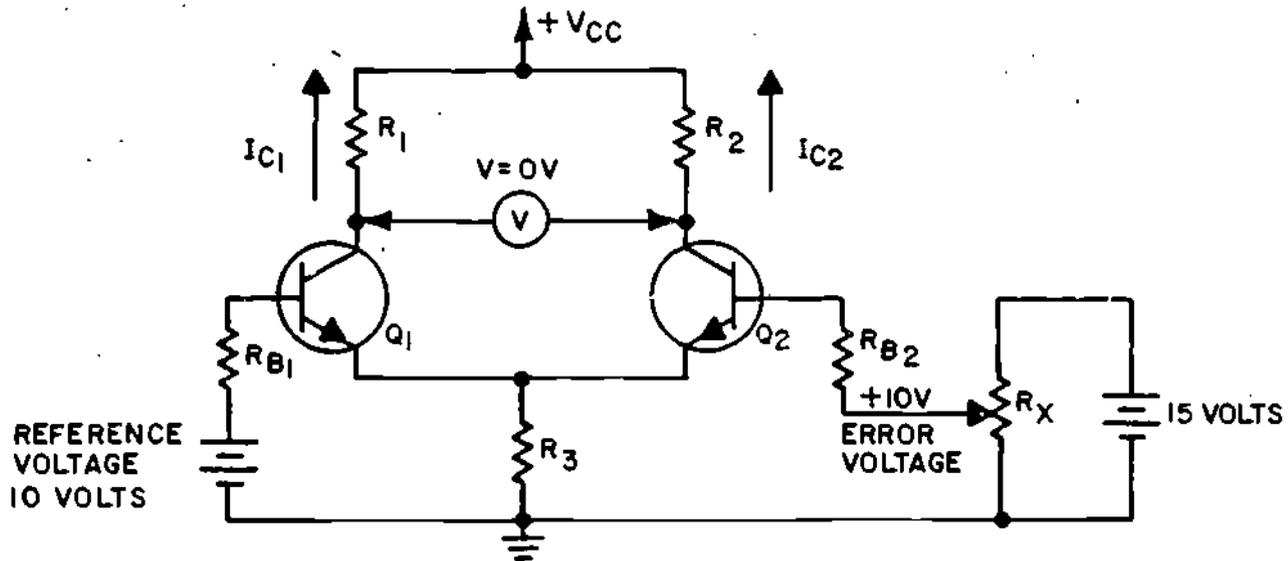

FIGURE 18
- (26.) The schematic shown in Figure 18 is a voltage comparator circuit that is part of a shunt detected series voltage regulator.
Notice that identical transistors and collector load resistors are used with a common emitter resistor in order to form the balanced circuit. The circuit shown is often called a differential amplifier, since it amplifies the difference between the input signals. Look at Q1 and note that a reference voltage of 10 volts is applied to the base of the transistor. An identical potential is applied to the base of Q2. This voltage is the result of using the potentiometer Rx to select a value which is equal to the reference voltage. The error signal equals the difference between the reference and error voltage. A voltmeter connected across the two transistor collectors, as shown in Figure 18, results in a voltage reading of zero volts. This means that